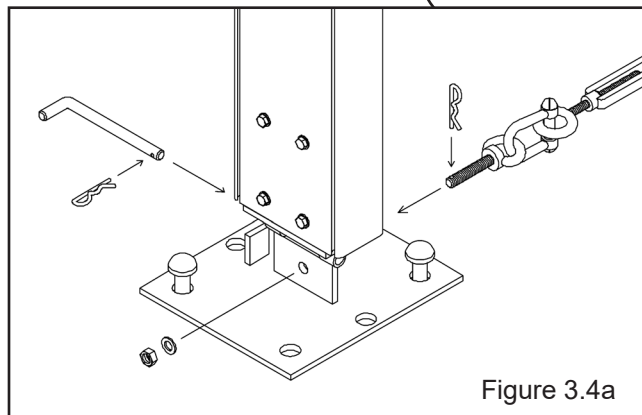

Figure 3.4a
- 3.4.1 The Upright Cables connect to the base plates by inserting an Eyebolt attached to the loose end of the cable assembly thru the hole in the base plate vertical tab as shown in **Figure 3.4a**. Secure the Eyebolt with the washer and nut provided. **NOTE:** The R-Clip provided will be used later to secure the wall ground rails at the End Arches if the gable end walls are installed. Adjust the tension of the cables using the turnbuckles, tension only enough to make frame stable. After the Upright Cables have been installed and tensioned, remove the Diagonal Beam Braces.